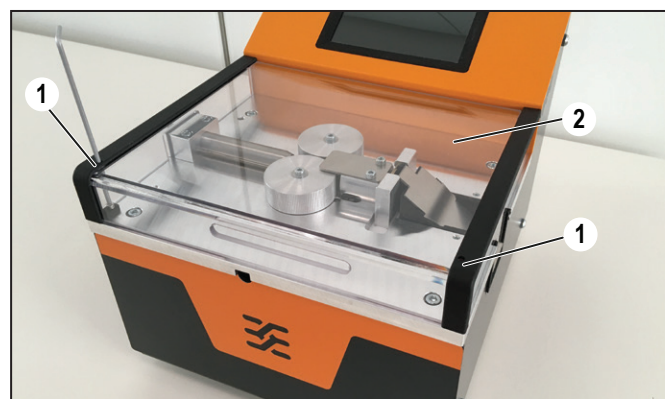

Figure 7.1 Removing the protective cover
- ▶ Loosen the two mounting screws (Figure 7.1, 1).
- ▶ Lift off the protective cover (Figure 7.1, 2) and carefully put it aside.